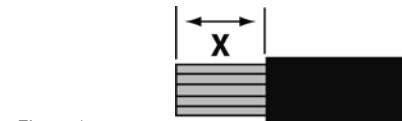

Figure 1
- Jacketed cable: Strip outer jacket. Strip insulation from discrete wires (See Table 1 & Figure 1)
- Discrete wires: Strip insulation from discrete wires (See Table 1 & Figure 1)